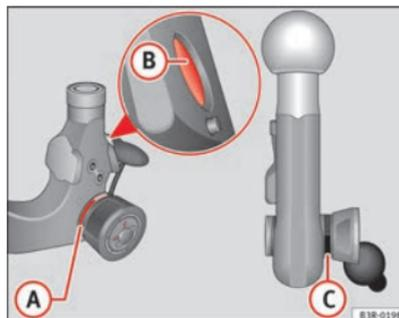

Fig. 158 Removable towing bracket: Ball joint
- Check that the red marking **(A)** ⇒ Fig. 158 on the knob is inside the black zone marked on the ball joint.